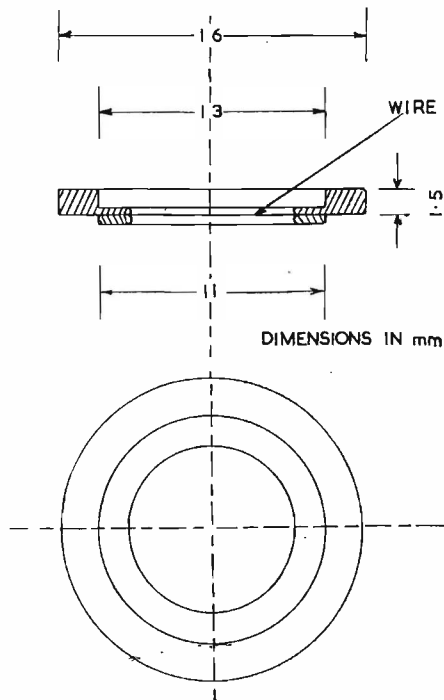

Fig. 6. Cross-section and plan of ring frame, showing the thin welding flange and the thicker strengthening section
expanding. This is achieved by making the weld on a thin flange protruding inwards from the main frame ring, as shown in Fig. 6. The frame of the tungsten wire grid cannot therefore be stamped out of sheet metal, but must be machined, and becomes necessarily more expensive on this account. Further, the great strength required of the frame necessitates a greater width of ring, thus partly offsetting the advantages gained by the use of tungsten wire.
Tension measurements on the molybdenum wire grid of 60 micron wire, aperture 11mm, frame 1mm wide, 1mm thick, gave average values of the order of  $7.0 \times 10^4$  gm/mm2. A tungsten grid of 50 micron wire, frame as shown in Fig. 6 gave values up to  $8.7 \times 10^4$  gm/mm2. These figures should be compared with a CV273 grid, unstretched using 29 micron directly wound tungsten
design of the tungsten wire grid, the frame of which is not stretched by notching after welding. In practice, a thin flange and covering washer must be provided as shown in Fig. 6. In the molybdenum wire grid frame, which is stretched after welding, the tension in the wires is built up at the same time as the stress in the frame. The best and most economical design is one in which the greatest permissible stress in the frame  $f'$  and in the longest wire  $\tau'$  are simultaneously established at the end of the notching process. From Equation (11) we find the maximum stress in the frame which will be found at  $\phi = 0$  and  $\pi$